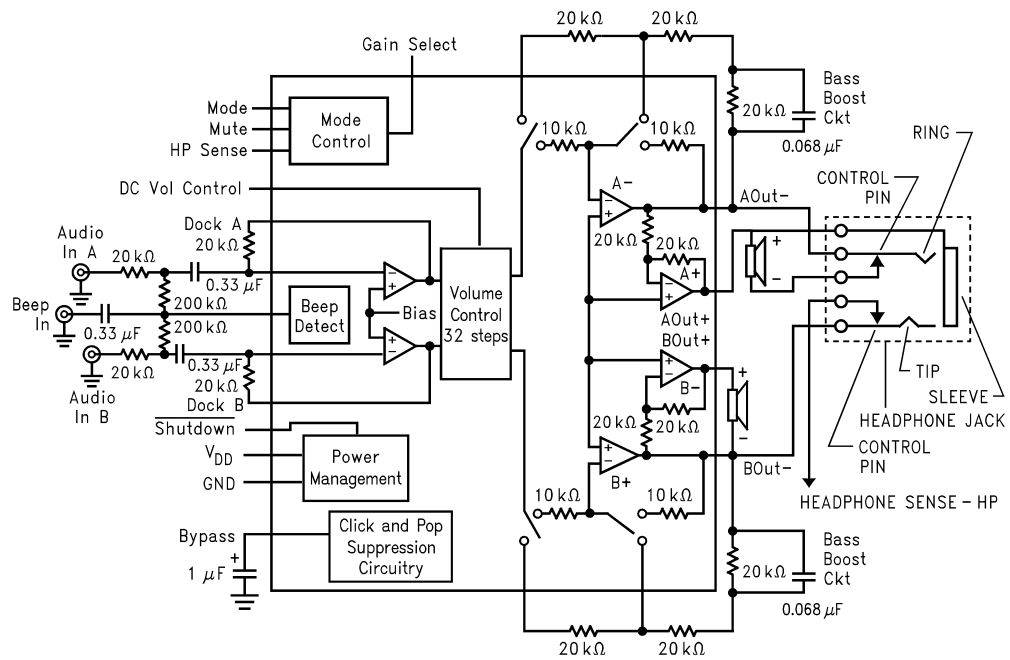

Figure 3. LM4841 Block Diagram
- (1) All voltages are measured with respect to the ground pins, unless otherwise specified. All specifications are tested using the typical application as shown in Figure 3.
- (2) *Absolute Maximum Ratings* indicate limits beyond which damage to the device may occur. *Operating Ratings* indicate conditions for which the device is functional, but do not ensure specific performance limits. *Electrical Characteristics* state DC and AC electrical specifications under particular test conditions which ensure specific performance limits. This assumes that the device is within the Operating Ratings. Specifications are not ensured for parameters where no limit is given, however, the typical value is a good indication of device performance.
- (3) Typical values are measured at $25^\circ C$ and represent the parametric norm.
- (4) Limits are specified to AOQL (Average Outgoing Quality Level). Data sheet min/max specification limits are specified by design, test, or statistical analysis.
- (3) Typicals are measured at 25°C and represent the parametric norm.
- (5) When driving 3Ω loads from a 5V supply, LM4841MH and LM4841LQ must be mounted to the circuit board and forced-air cooled.
- (6) When driving 4Ω loads from a 5V supply, the LM4841MH and LM4841LQ must be mounted to the circuit board.